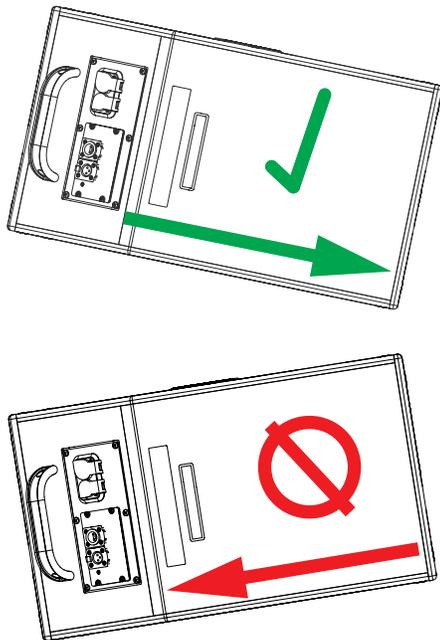

Figure 5: Horizontal Tilt-Away from Electronics Permissible (top); Horizontal Tilt-Toward Electronics **NOT** Permissible (bottom)
**CAUTION:** If tilting the loudspeaker from 0° horizontal, ensure that the horizontal tilt leaves the port below the electronics, so that water does not enter from the port and accumulate in the cabinet (Figure 5).